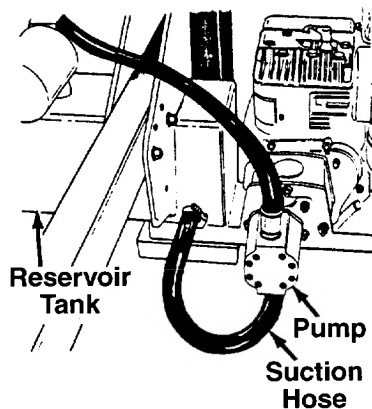

FIGURE 9.
1. The suction hose is attached to the reservoir tank, beneath the engine mounting bracket. See figure 9. Loosen the hose clamp on the free end of the hose using a screwdriver.